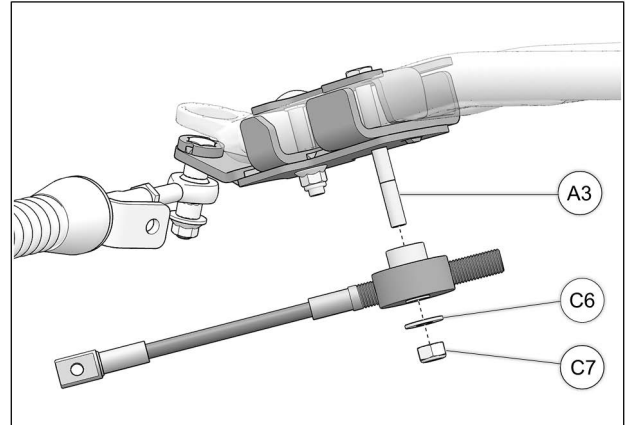

Fig. 23
14. Slip steering limiter cable assembly over M10x100mm bolt (**A3**) previously installed in step 5. Use supplied washer (**C6**) and nut (**C7**) to secure steering limiter assembly in place. Tighten nut to 50 Nm [37 lb•ft]. Refer to Fig. 23